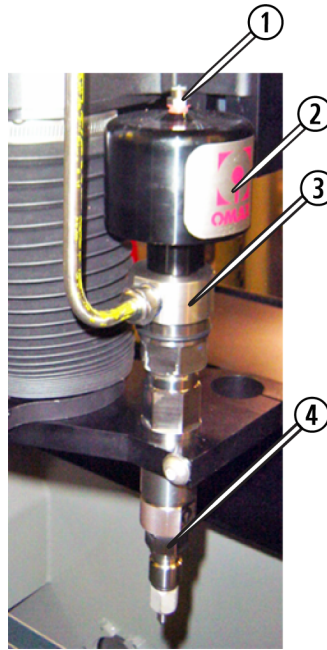

Figure 1
2. Remove the **air line** from the **air line fitting** on top of the **air actuator assembly** (Figure 1) and move it out of the way.